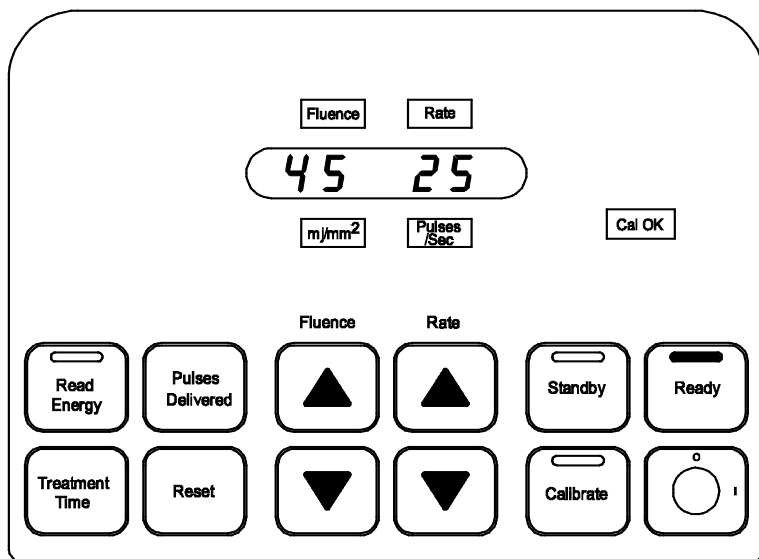

Figure 9
1. **Ready** mode is entered from **Standby** mode by depressing the **Ready** button. (Figure 9)